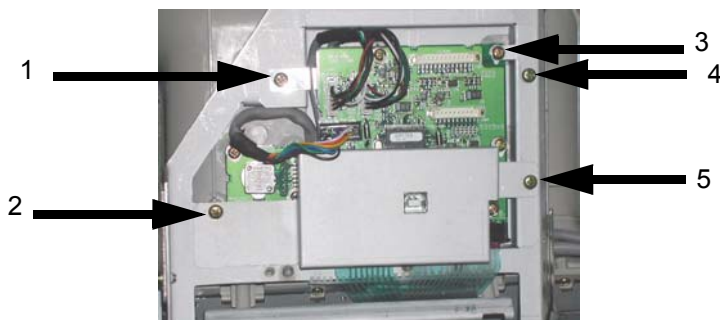

Figure 8-39 Removing EMC guard
- 1.) Unscrew five (5) screws and remove the EMC guard from the HUB Board. Refer to section Figure 8-39 on page 27..